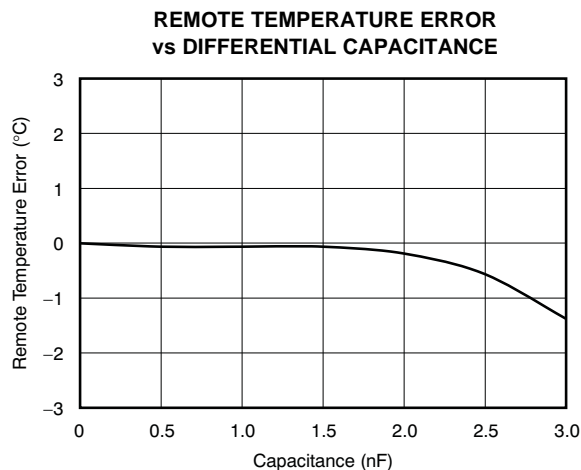

Figure 6.
(1) Diode-connected configuration provides better settling time. Transistor-connected configuration provides better series resistance cancellation.
(2) R_S (optional) should be $< 1.5\text{k}\Omega$ in most applications. Selection of R_S depends on application; see the Filtering section.
(3) C_{DIFF} (optional) should be $< 1000\text{pF}$ in most applications. Selection of C_{DIFF} depends on application; see the Filtering section and Figure 6, *Remote Temperature Error vs Differential Capacitance*.
(2) R_S (optional) should be $< 1.5k\Omega$ in most applications. Selection of R_S depends on application; see the Filtering section.
(3) C_{DIFF} (optional) should be $< 1000pF$ in most applications. Selection of C_{DIFF} depends on application; see the Filtering section and Figure 6, *Remote Temperature Error vs Differential Capacitance*.
(4) TMP422 SMBus slave address is 1001 100 when connected as shown.
The TMP421/22/23 tolerate differential input capacitance of up to 1000pF with minimal change in temperature error. The effect of capacitance on sensed remote temperature error is illustrated in Figure 6, *Remote Temperature Error vs Differential Capacitance*.